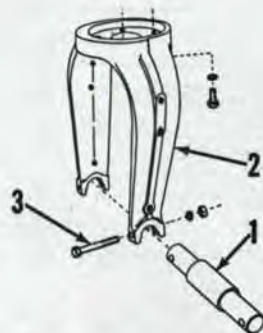

Fig. 1—Exploded view of the single front wheel fork and associated parts.
**1. WHEEL ASSEMBLY.** The single front wheel assembly may be removed after raising front of tractor and removing bolt (3—Fig. 1) at each end of wheel axle (1).
**2. R&R SINGLE WHEEL FORK.** Raise front end of tractor, remove bolts (3—Fig. 1) from each end of wheel axle and remove wheel assembly from fork. Unbolt and remove fork (2) from steering gear shaft.